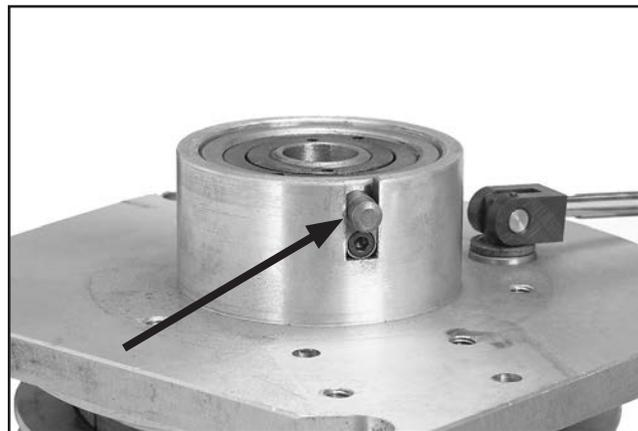

Figure 84. Gear change pin.
4. Remove the gear change pin by taking out the cap screw, pushing down on the transmission case cover plate, then pulling the pin out (see **Figure 84**).